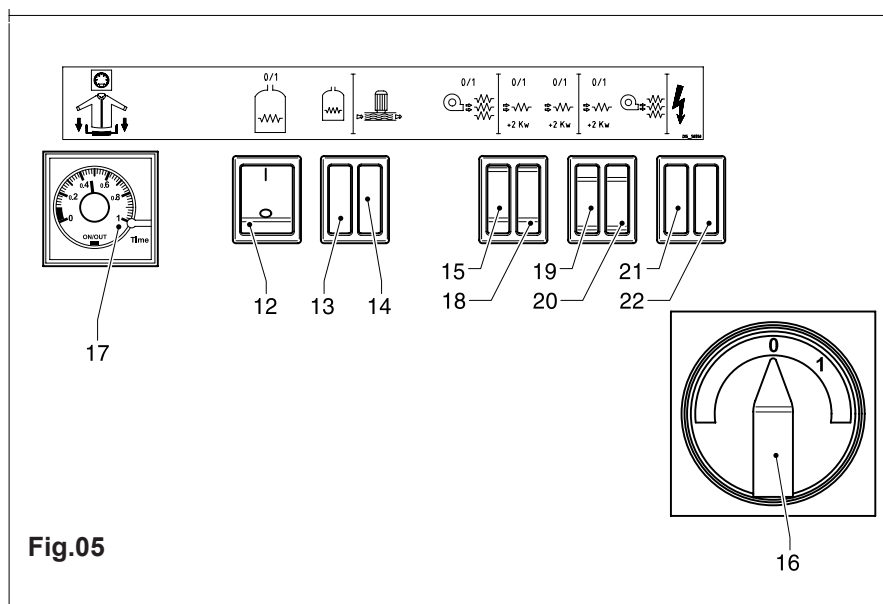

Fig.05
- a) Turn on the general electrical supply switch and the door closing switch (16) Fig.05 on the electric panel; the red indicator lamp illuminates (22) Fig. 05 to show that there is an electrical supply connected.